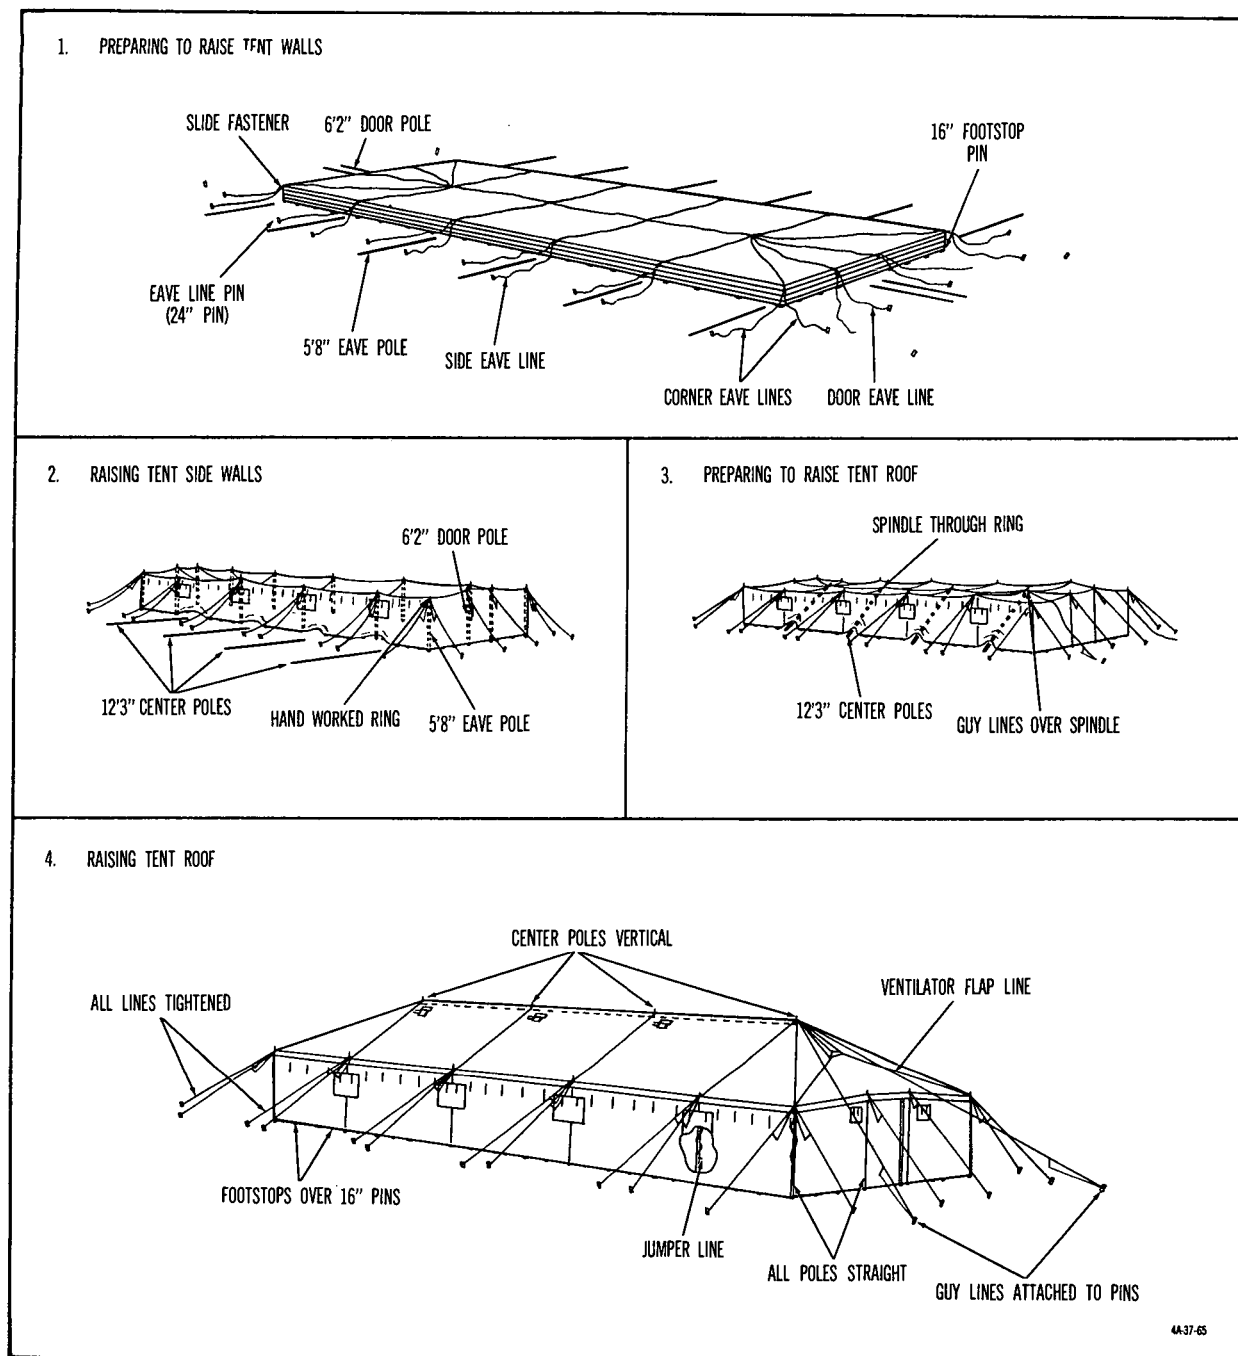

Figure 21. Steps in pitching tent, general purpose, large.
(3) Preparing to raise tent roof (3, fig 21).
(4) *Raising tent roof* (4, fig 21).